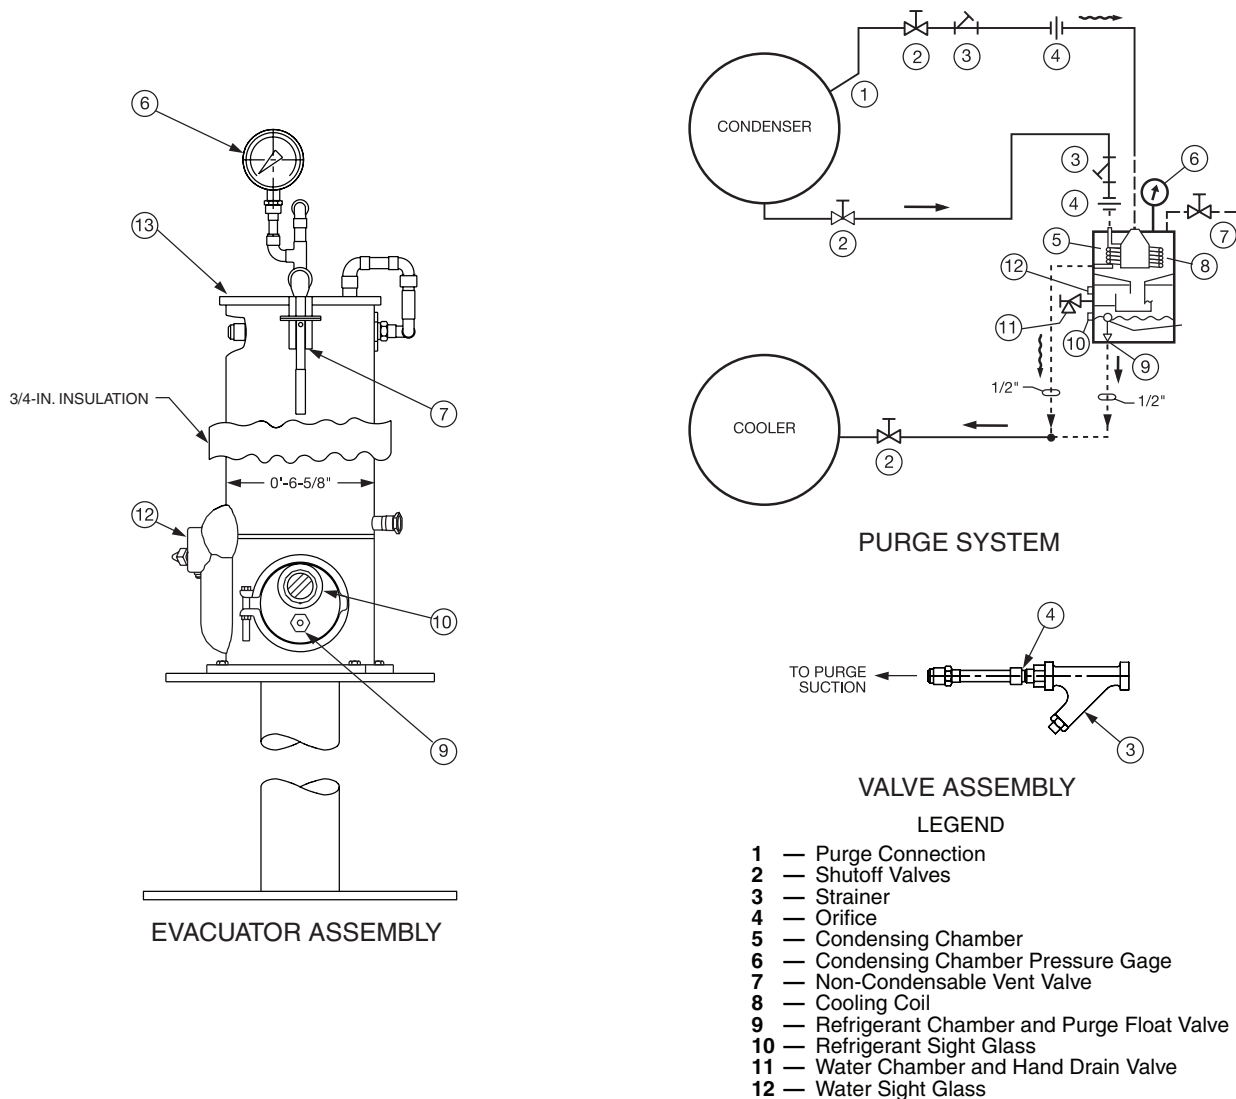

Fig. 6 — Purge Cycle Schematic Piping
INSPECT PURGE RECOVERY UNIT — Close purge service valves. This unit handles corrosive mixtures at their highest concentration and protects machine. Keep it in good operating condition. See Fig. 6 for purge evacuator assembly components. Proceed as follows:
7. Check 1/16-in. orifice in strainer/orifice assembly (Item 6, Fig. 6). Clean strainer (Item 7, Fig. 6).
Purge Cycle — See Fig. 6. Non-condensable gases, water vapor, and refrigerant vapor pass from top of machine condenser through strainer (Item 3) and orifice (Item 4) to purge condensing chamber (Item 5). Water and refrigerant vapors are condensed by cooling coil (Item 8) which is supplied with filtered refrigerant (Item 3) through orifice (Item 4) in machine condenser liquid line.